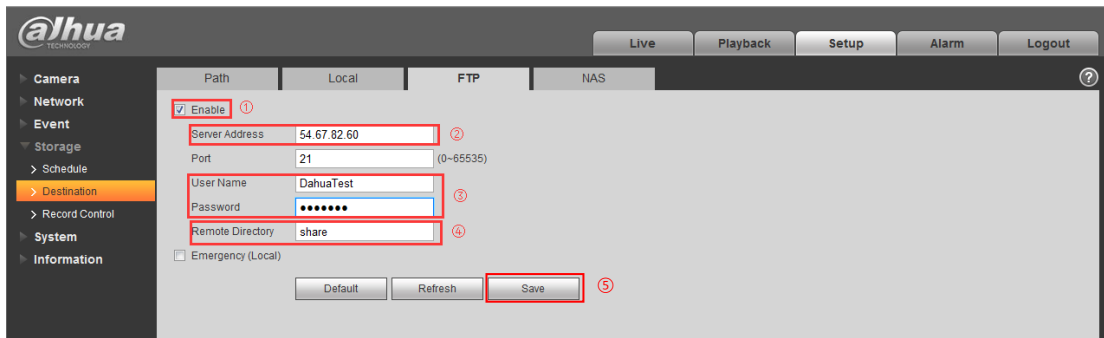

Figure 10-2
2) Enter 'Setup-Storage-Destination-FTP' as Figure 10-2